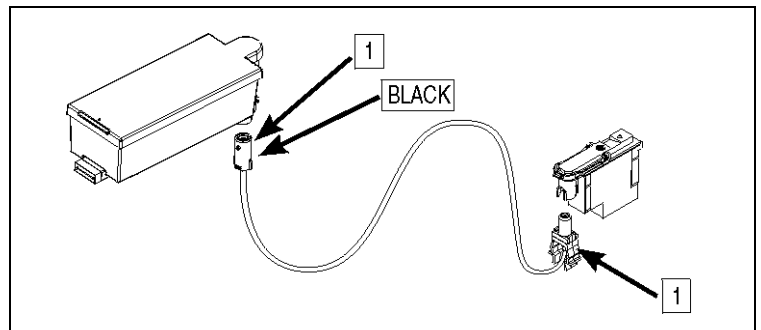

Fig. 3-3. Ink type and ink number labels
8. Referring to the Color Map card, affix the labels showing the ink color and ink type onto the connectors of the ink supply tube (see Fig. 3-3 on page 3-5).